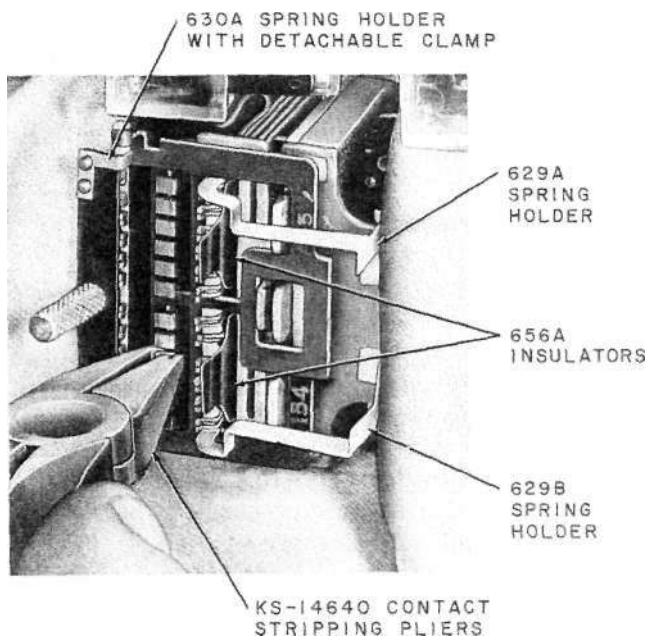

Fig. 2—Removing Contact From Fixed Spring
(1) On these relays, insert a 656A insulator to prevent shorting of the movable break contact springs with the contact cover spring during replacement of fixed contacts. If the relay has break contacts in both the 1 through 6 and 7 through 12 position groups, use two insulators. If only one of these groups has break contacts, only one insulator is required.
(2) To insert a 656A insulator, hold the tab of the insulator with the offset portion toward the contact cover spring. Insert the insulator between the contact cover spring and the movable break contact springs until the insulator touches the spoolhead. Figure 2 shows the insulators in position.
(1) On these relays, spring holders are required to hold the break contact springs away from the fixed contacts during replacement of fixed contacts. The 629A spring holder is used for positions 7 through 12 and the 629B spring holder for positions 1 through 6. If the relay has break contacts in both the 1 through 6 and 7 through 12 position groups, use both spring holders. If only one of these groups has break contacts, only the spring holder for that group is required.
(2) To insert the 629A or B spring holder, proceed as follows. Hold the spring holder in one hand and, with the other hand, push the card to the right to open the gap between the fixed and break contacts sufficiently to insert the holder. Insert the notched leg of the holder into the gap with the six notches in line with the six positions (1 through 6 or 7 through 12) on the relay. Swing the outer end of the holder to the right, engaging each pair of twin break contact springs in the proper notches. Move the holder to the right, and clip the holder on the core plate. Release the card, and make sure each pair of twin springs is engaged by the proper notch in the spring holder. Figure 2 shows both spring holders in position.
(3) After positioning the spring holder on the relay, place one end of the KS-6320 orange stick between the armature and adjacent edge of the card. Tilt the card inward with the orange stick so the card can be moved over the ends of the armature lugs. Then, with the orange stick, push the card inward against the core plate.
(4) Hold the clamp of the spring holder by the handle with the notch of the clamp pointing downward. Place the metal loop at the top of the clamp on the end of the spring holder that extends above the make contact springs. Move the clamp downward so that the notch in the bottom of the clamp engages the pin near the bottom of the spring holder. The clamp will hold the make contact springs in their proper notches in the spring holder.
(5) Using the 628A balancing spring lifter, place the outer end of the top leg of the balancing spring in the notch at the top of the spring holder. Similarly place the outer end of the bottom leg of the balancing spring in the notch at the bottom of the spring holder. Figure 2 shows the spring holder and clamp in position.